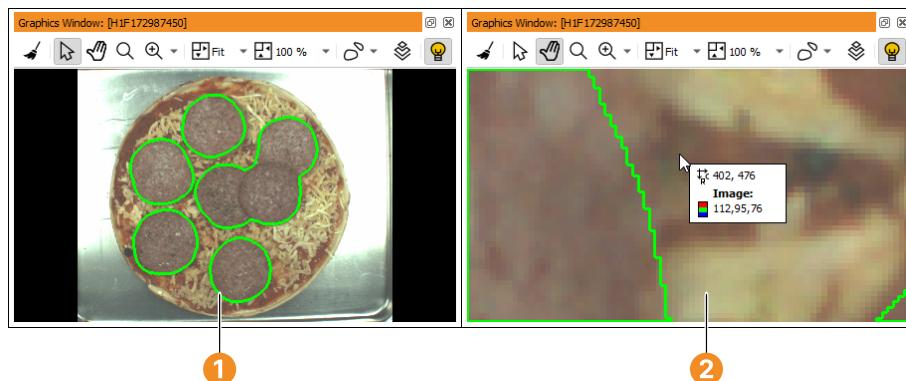

Figure 6.10: Graphics window displaying a tasty pizza.
Figure 6.10 ① shows an example graphics window which is displaying a color image of a pizza overlaid with region data (the segmented salami slices). One of the displayed regions is selected (illustrated by the dashed border). The variable name and index of the selected region is displayed in the title bar.
Figure 6.10 ② shows the coordinate/color value display after zooming in with the mouse wheel.
In the example image illustrated in figure 6.10 on page 74, the displayed image of a pizza is overlaid with region data. A single region is selected.